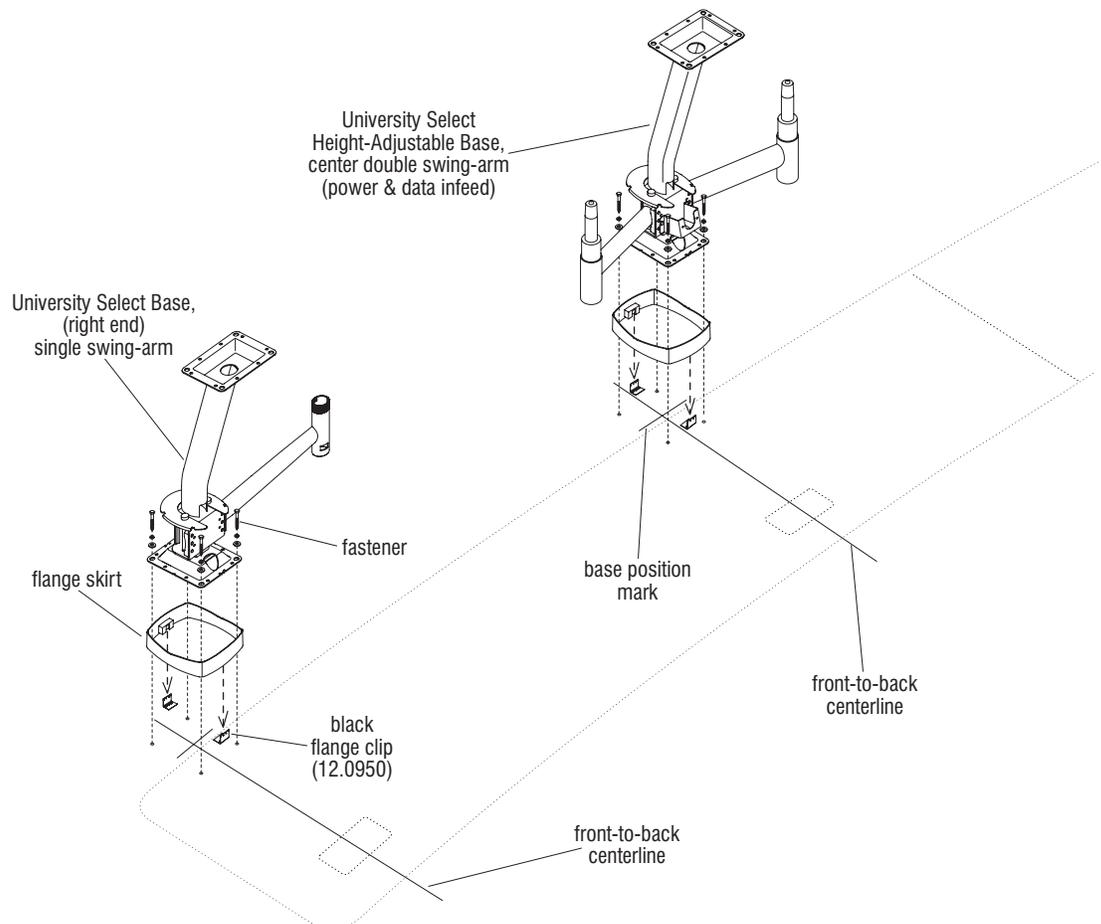

Figure 2
4. Identify which type of bases are to be installed (single or double swing-arm, and/or power/data infeed) along with their location according to the space-planning layout. Set the bases out at the appropriate location. Carefully move the worksurfaces forward to make room for installation of the bases to the floor (Figure 2).
locations onto the floor (Figure 2). Read the note below and go onto step 6.
6. Bore anchor holes to minimum 1/4" x 2 3/4" hole depth for concrete floors, or 9/32" (see page 3) for wood floor, with flat and locking washers (not included). As illustrated, before base is attached to floor, place a flange skirt over the bottom of the base and lift it out of the way for the time being. Align the base over the pre-drilled holes and drive in (do not tighten) mounting screws (not provided). Shim under the base flange with steel washer(s) as needed to level or compensate for floor variances (Figure 2).
the locating tabs of the flange so that they are tight into the base flange notches for proper engagement of flange skirt later. After all bases are located and adjusted with shims, tighten base flanges to the floor. Snap flange skirts onto flange clips at each base-to-floor location. **Make sure that skirts are centered around the 6" x 8" floor flange and fit snug to the floor (Figure 2).**